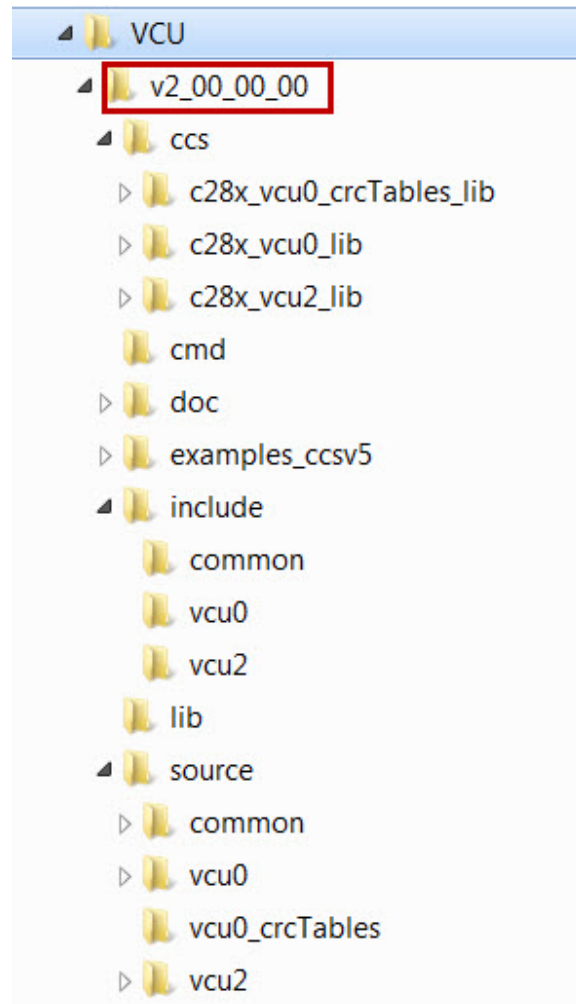

Figure 3.1: Directory Structure of the VCU Library
*VERSION* indicates the current revision of the VCU library. Figure. 3.1 shows the directory structure while the subsequent table 3.1 provides a description for each folder.
The user will note (Figure. 3.1) that the source, header and project files for the two VCU types, 0 and 2, are maintained in separate sub-directories titled *vcu0* and *vcu2*. Each VCU type has its own CCS project and .lib output. This allows for legacy compatibility and easy migration of projects that use the older versions of the library.